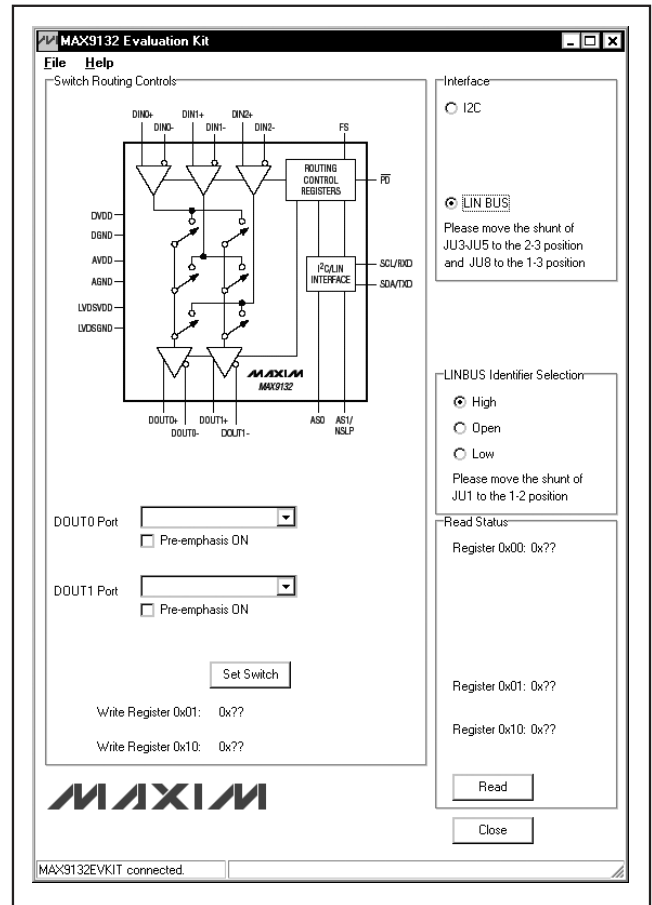

Figure 3. MAX9132 EV Kit Software Main Window (LIN Bus Mode)
- 14) Click on the **LIN BUS** radio button and the EV kit main window appears, as shown in Figure 3.
To select the LIN bus protocol, click on the **LIN BUS** radio button and follow the instructions that appear below the radio button. A **Switch Routing Controls**, **LINBUS Identifier Selection**, and **Read Status** group box appears in the GUI's main window, as shown in Figure 3.